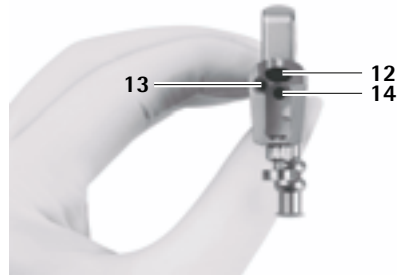

Fig. 1
- insert obturator for the oval working channel 7 into the working channel 12, see Fig. 1.
The irrigation fluid drains out via the large working channel 12 and the small working channel 13, see Fig. 1.